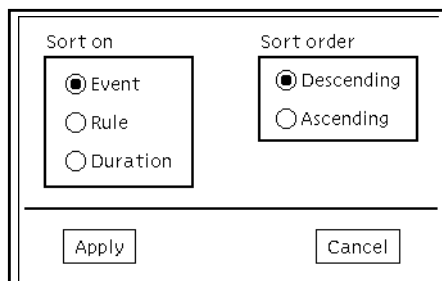

FIGURE 3-26 Sort . . . Dialog Window from the View Menu
- **Sort . . .**—Brings up a dialog window that allows you to select the item to sort on such as Event, Rule, Duration, and the Ascending or Descending sort order (see FIGURE 3-26.)